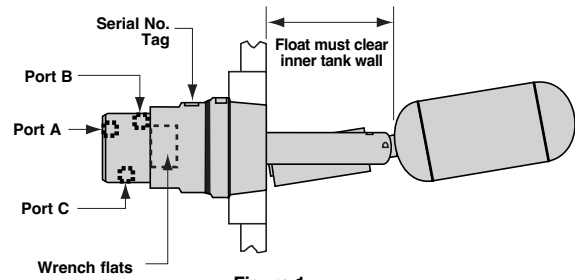

Figure 1
1. Ensure that the length and inside diameter of the mounting nozzle are sized correctly to allow for switch actuation at design levels. Refer to **Figure 1**.
6. Connect the inlet, outlet and exhaust air line(s) to the appropriate 1/4" NPT connection port(s) based on the required valve action. Refer to **Figure 1** and **Table 1**.
1. Use only the 2" wrench flats to install or remove the unit. Refer to **Figure 1**. Use of any other surface could change the calibration. The valve body is calibrated at the factory and locked in place.